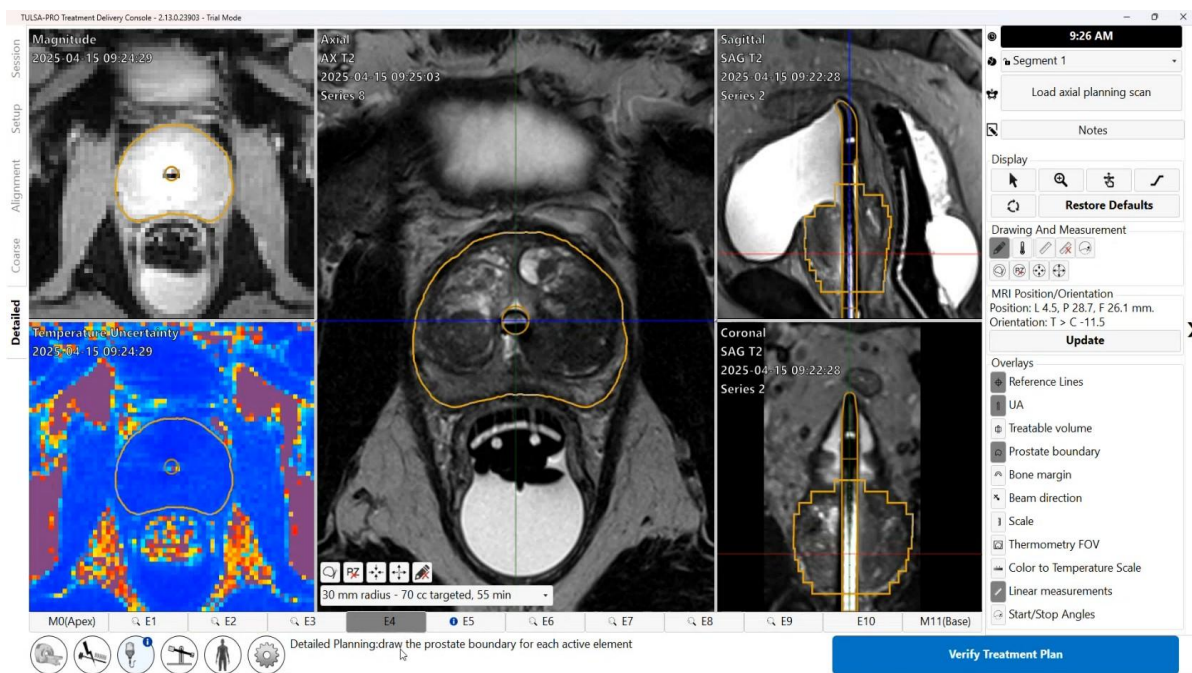

Figure 39: Detailed Planning after drawing boundaries
1. Draw or edit the boundary to outline the tissue to be ablated on each slice based on the corresponding AX T2 and THERM magnitude images (Figure 39). Tools to customize the boundary are described in the following *mpMRI Vision*, *Treatment Arc*, *TULSA-AI Volume Reduction (VR)*, and *Contouring Assistant*. You can select individual slices by clicking on the numbered tab at the bottom of the screen or by pressing the left and right arrow keys on the keyboard. Use the sagittal and coronal views of the SAG T2 images to verify the intended ablation zone in three dimensions.